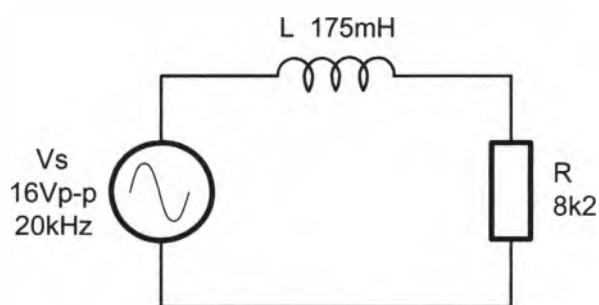

Figure 1
1. For the circuit of Figure 1, calculate: